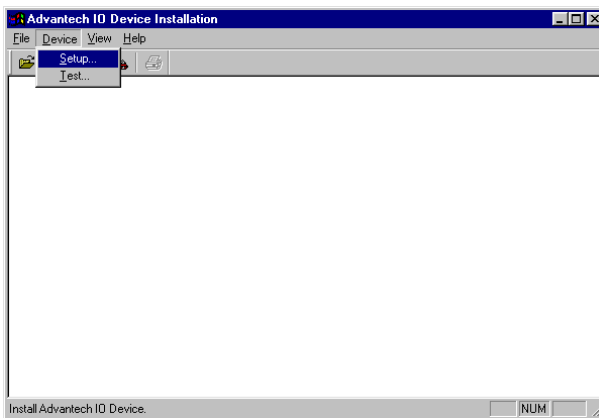
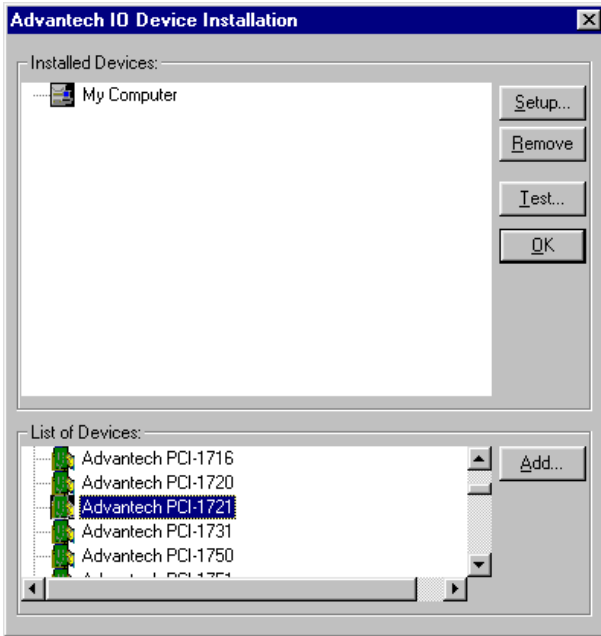

Fig. 2-7 *The Advantech Device Installation utility program*
Fig. 2-8 The I/O Device Installation dialog box
Step 2: On the *Device Installation* program window, select the *Setup* menu item on the menu bar, and click the *Device* command (Fig. 2-7) to bring up the *I/O Device Installation* dialog box (Fig. 2-8). You can then view the device(s) already installed on your system (if any) on the *Installed Devices* list box. Since you haven't installed any device yet, you might see a blank list such as the one on the next page (Fig. 2-7).